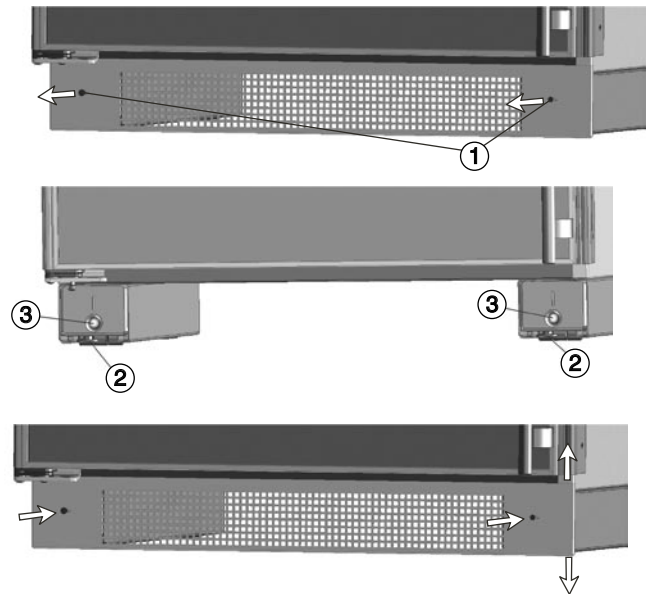

Figure 11
1. Loosen the lower ventilation grille screws (Fig. 11, 1).
The height can be adjusted in front by twisting the leveling wheels (Fig. 11, 2).
2. Twist the adjusting bolt (Fig. 11, 3) to set up the back of the refrigerator.
Refer to "Leveling the Refrigerator" Fig. 11.